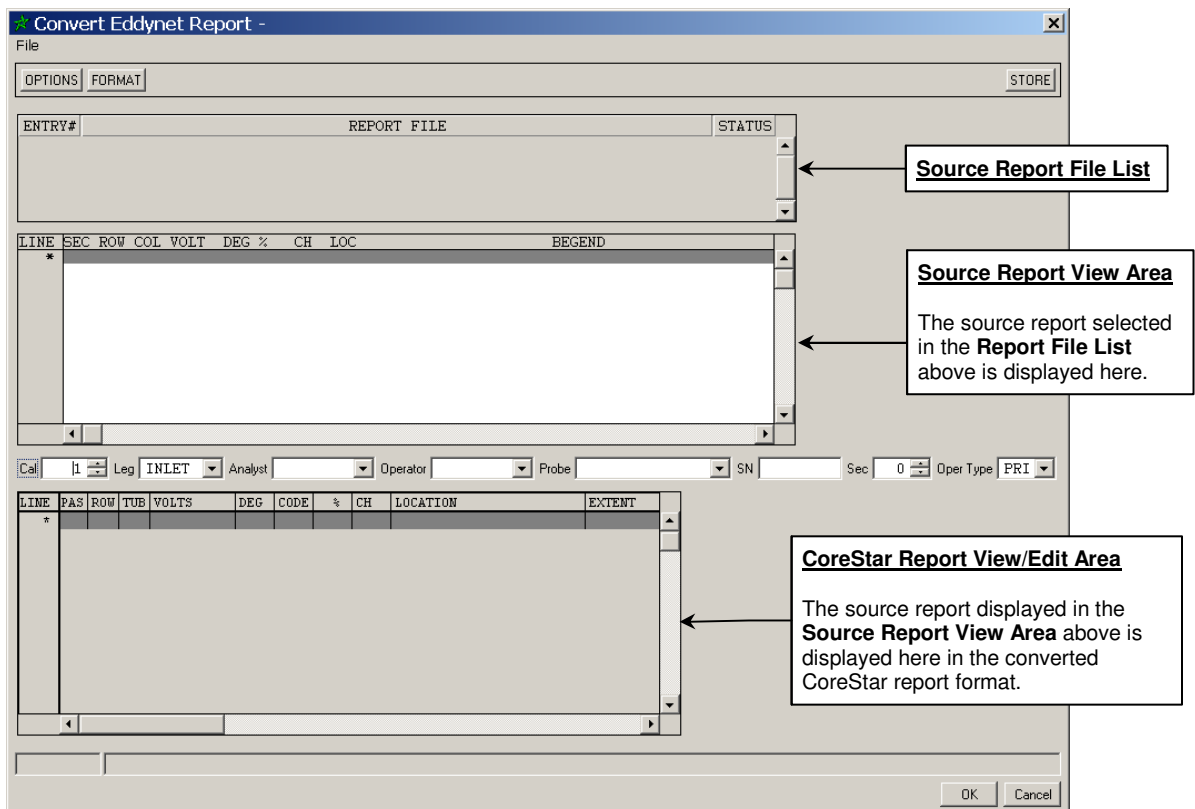
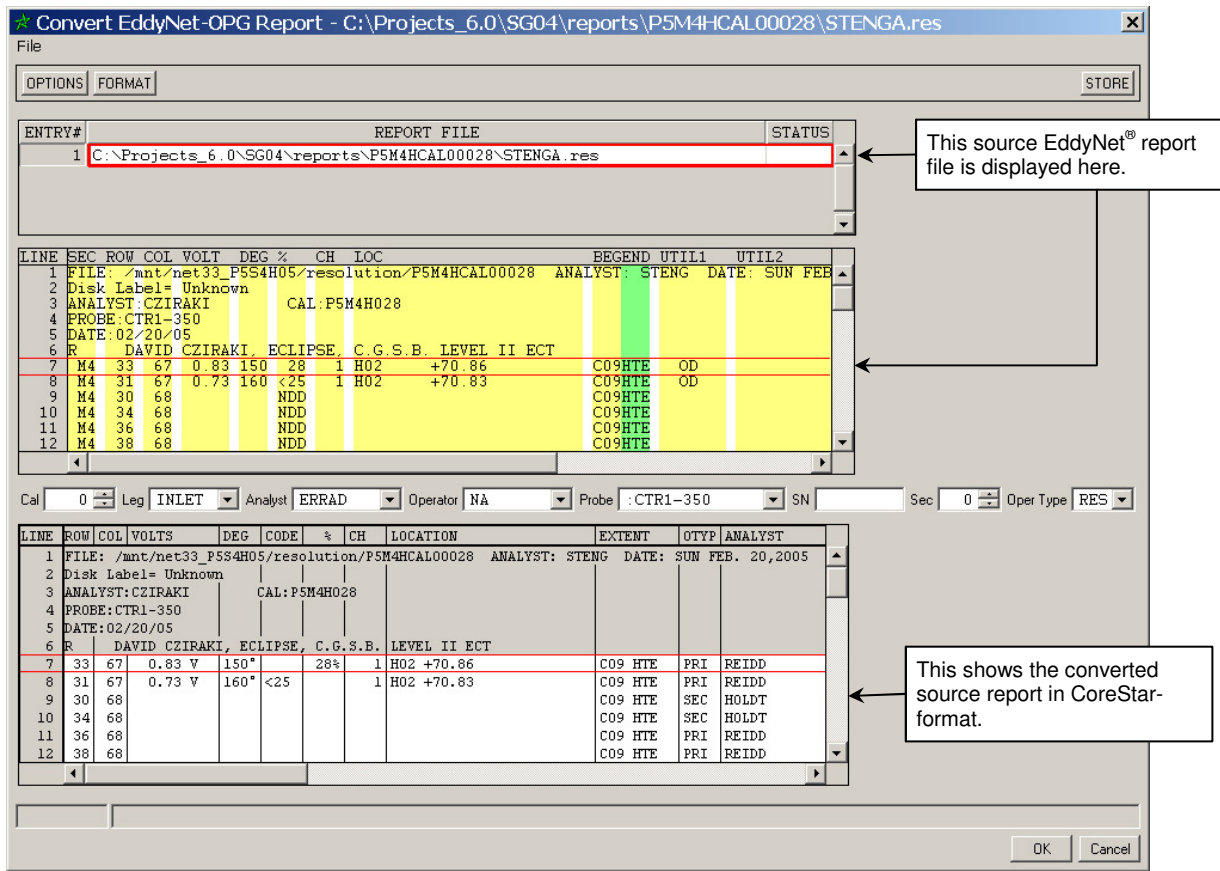
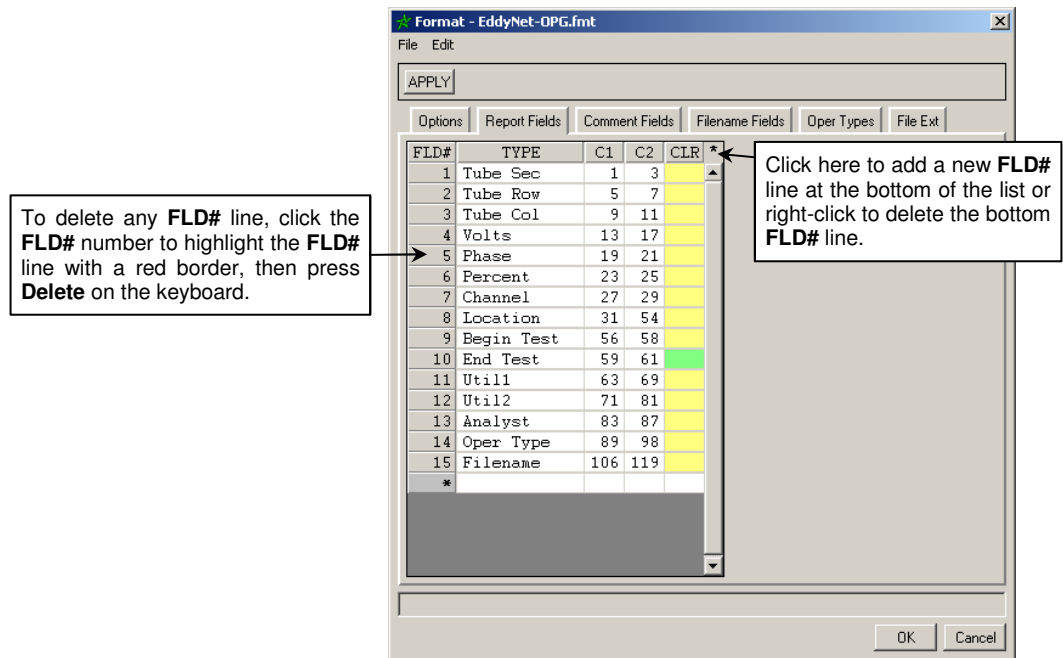
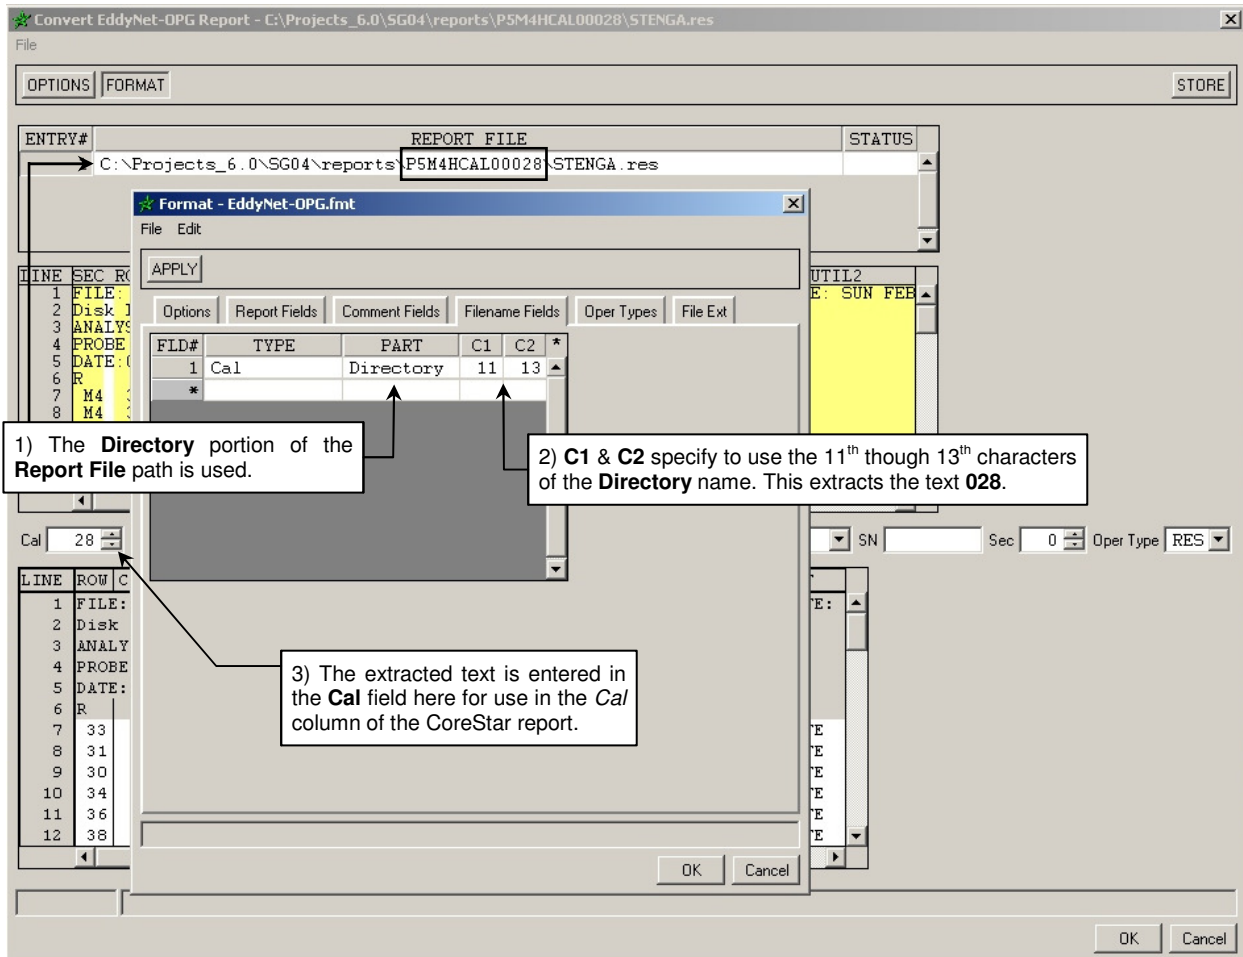

Figure 42. Util | Convert Report Dialog
Figure 44. Util | Convert Report Dialog with Source EddyNet® Report Opened
Figure 49. Util | Convert Report Dialog | Format Dialog | Report Fields Tab
Figure 51. Util | Convert Report Dialog | Format Dialog | Filename Fields Tab
- Util | Convert Reports** displays the dialog shown in Figure 42. This is a new feature in **EddyVision v6.0** that allows users to convert non-CoreStar or *foreign* analysis reports that are in text format to CoreStar binary format that can then be uploaded into the database. As previously mentioned, all non-CoreStar report import formats have been removed from **EddyVision v6.0**. This dialog provides a method to better handle the *ever-changing* foreign report formats in the industry by giving the user the ability to create custom report conversion routines as needed. In Figure 42, an EddyNet® format has been loaded as indicated in the title bar of the dialog. The filename (*without the file extension*) of the currently opened report converter file will always be shown in the title bar.
This topic will discuss the **Convert Report** dialog beginning with the menu selections, followed by on-dialog buttons, any underlying dialogs and menu selections on those dialogs, and the description and use of the three (3) main parts of the **Convert Report** dialog as shown in Figure 42. For the purpose of this discussion, the EddyNet® format (*included with EddyVision v6.0*) and associated report files will be used.
- **File | Open** (Ctrl+O) displays an **Open** dialog from which a source (*non-CoreStar*) report file can be opened. This presents the report file that needs to be converted to CoreStar-format. The source file must be in text format and of the fixed column width type, i.e., no delimiters can be used at this time. Comma-delimited support is planned for a future v6.x maintenance release. As shown in Figure 44, the source file contents will be displayed in the **Source Report View Area** of the **Convert Report** dialog, while the filename is displayed in the **Source Report File List**. In addition, the converted report, based on the currently loaded format, will be displayed in the **CoreStar Report View/Edit Area** (*see Figure 42*).
- **Options | Highlight Fields** enables (*green*) or disables (*gray*) whether the fields are highlighted in the **Source Report View Area**. This feature is a necessity when initially creating a new conversion format. The highlight color is controlled by the user in the **Format** dialog discussed next. Assuming you are reviewing this manual electronically, **Highlight Fields** is enabled in Figure 44 as indicated by the columns that are highlighted yellow and green.
- **Options Tab | Header Lines** specifies how many lines from the top of the source report that should be skipped before valid report entries begin. For example in Figure 44, the header makes up the first six (6) lines of the source report in the top of the **Convert Report** dialog; therefore, a value of '6' should be entered in the **Header Lines** field of the **Options** tab. Note in Figure 44 that the corresponding six (6) lines in the CoreStar report in the bottom of the **Convert Report** dialog are grayed-out.
The **Report Fields** tab on the **Format** dialog is shown in Figure 49. This is one of the most important parts of the report converter in DBMS v6.0. This interface is used to specify where parts of each source report line goes in the CoreStar report during conversion. For example in Figure 49, the text in columns 5 through 7 of the source report will fill the *Row* column in the CoreStar report for each valid report entry. Each column of the **Report Fields** tab is described below.
- **Report Fields Tab | FLD#** is an abbreviation for ‘field number.’ This column simply increments the **FLD#** for each new line added to the **Report Fields** tab. To add or delete **FLD#** lines, please review Figure 49. To *Undo* all changes, simply click **Cancel**, then click **No** on the message box that appears.
- **Report Fields Tab | Type** specifies the column of the CoreStar report where the text indicated by **C1** and **C2** from the source report will reside after conversion. Click or right-click a **Type** field to toggle through the available columns in a CoreStar report. Middle-click a **Type** field to set it to *Skip*. For example in Figure 49, the information for the CoreStar report *Row* column will be extracted starting with the 5th column (**C1**) and ending with the 7th column (**C2**) in the source report. The **C1** and **C2** values are inclusive.
- **Report Fields Tab | C1** specifies the beginning column of a range of the source report that will be used to fill the column specified in the **Type** field for a given **FLD#**. Click to increase by 1, Shift+click to increase by 10, Ctrl+click to increase by 100, and middle-click to reset to 1. Alternatively, right-click to decrease by 1, Shift+ right-click to decrease by 10, and Ctrl+ right-click to decrease by 100. For example in Figure 49, the information for the CoreStar report *Volts* column will be extracted starting with the 13th column (**C1**) and ending with the 17th column (**C2**) in the source report. The **C1** and **C2** values are inclusive.
- **Report Fields Tab | C2** specifies the ending column of a range of the source report that will be used to fill the column specified in the **Type** field for a given **FLD#**. Click to increase by 1, Shift+click to increase by 10, Ctrl+click to increase by 100, and middle-click to reset to 1. Alternatively, right-click to decrease by 1, Shift+ right-click to decrease by 10, and Ctrl+ right-click to decrease by 100. For example in Figure 49, the information for the CoreStar report *Phase* column will be extracted starting with the 19th column (**C1**) and ending with the 21th column (**C2**) in the source report. The **C1** and **C2** values are inclusive.
- **Report Fields Tab | CLR** specifies the background color of the column defined by **C1** and **C2** in the source report. To use this feature, click in any **CLR** field to toggle between the two (2) default shades of gray, middle-click to set the background color to white, or right-click to pick your own background colors. The same button clicks on the **CLR** title field will perform the same operations, but for all the fields at once.
As you modify the **C1** and **C2** fields, you will see them dynamically highlight with the selected background colors in the source report. Fields can be adjacent and even overlap. This is where using different background colors or shades of gray become extremely useful. For example, in the *Eddynet-OPG.fmt* shown in Figure 49, *Begin Test* and *End Test* have been assigned two (2) different colors. These are adjacent columns in the source report as well. To see the effect of the highlight colors for these two (2) columns, look at the *BEG* and *END* columns of the source report in Figure 44, which can best be viewed in the PDF version of this manual.
Finally, if the **Percent** column of the source report contains both numeric values (*percent*) and alpha characters (*3-letter codes*), the report converter will automatically parse numeric values into the **Percent** column of the CoreStar report, while the alpha characters will be parsed into the **Code** column of the CoreStar report. For example in Figure 49, note that there is only a **Percent** field **Type** in use for columns 23 through 25 of the source report and no **Code** field is listed. Now look at Figure 44 and you can see that the 28% call was parsed out to the **Percent** column in the CoreStar report, while the <25 and *NDD* codes were parsed out to the **Code** column.
- **Comments Fields Tab | FLD#** is an abbreviation for ‘field number.’ This column simply increments the **FLD#** for each new line added to the **Comment Fields** tab. To add or delete **FLD#** lines, please review Figure 49. To *Undo* all changes, simply click **Cancel**, then click **No** on the message box that appears.
The **Filename Fields** tab on the **Format** dialog is shown in Figure 51. This interface allows the user to extract information from the source report filename displayed in the **Source Report File List** of the **Convert Report** dialog (see Figure 42).
- **Filename Fields Tab | FLD#** is an abbreviation for ‘field number.’ This column simply increments the **FLD#** for each new line added to the **Filename Fields** tab. To add or delete **FLD#** lines, please review Figure 49. To *Undo* all changes, simply click **Cancel**, then click **No** on the message box that appears.
- **Filename Fields Tab | Part** specifies the portion of the source report file path that will be used to extract the information specified in the **Type** field. The three (3) choices are **Directory**, **Filename**, and **Extension**. The **Directory** is the parent directory of the file.
For example in Figure 51, the source report file path displayed is:
For example in Figure 51, the information for the CoreStar report *Cal* column will be extracted beginning with the 11th character (**C1**) of the **Directory** portion of the source report file path displayed in the upper portion of the **Convert Report** dialog and ending with the 13th character (**C2**). The **C1** and **C2** values are inclusive.